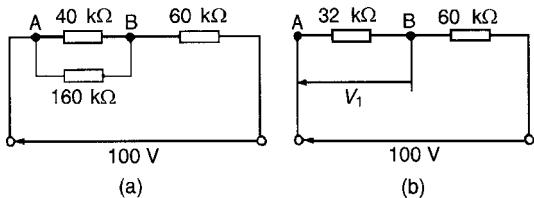

Figure 10.12
- (b) The resistance of a voltmeter having a  $100 \text{ V}$  f.s.d. and sensitivity  $1.6 \text{ k}\Omega/\text{V}$  is  $100 \text{ V} \times 1.6 \text{ k}\Omega/\text{V} = 160 \text{ k}\Omega$ . When the voltmeter is connected across the  $40 \text{ k}\Omega$  resistor the circuit is as shown in Fig. 10.12(a) and the equivalent resistance of the parallel network is given by
The circuit is now effectively as shown in Fig. 10.12(b). Thus the voltage indicated on the voltmeter is